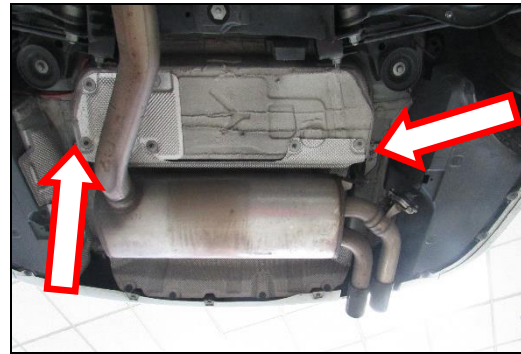

Figure 5
5. Remove the (x2) 13mm head nuts on the right and left side muffler hanger bracket and remove the OE muffler (**Figure 5**).